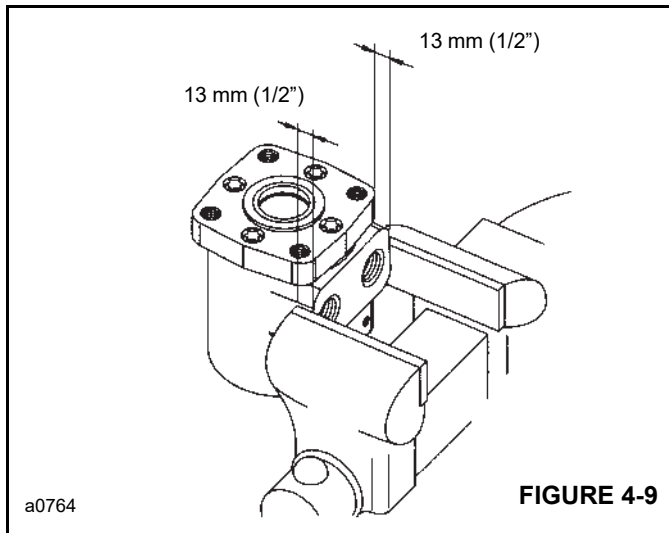

FIGURE 4-9
3. Remove end cap (17). Remove and discard seal (13) from the end cap.
4. Remove gerotor (16). Remove and discard seal (13) from the gerotor.
6. Remove drive shaft (14).
7. Remove spacer plate (15).
8. Remove seal (13) from housing (10).
9. Remove output shaft (9) from housing (10).
10. Remove needle thrust bearing (8) from shaft or housing.
11. Reposition the motor in the vice. Clamp across ports Figure 4-9. DO NOT clamp on housing. Excessive clamping pressure on side of housing causes distortion.